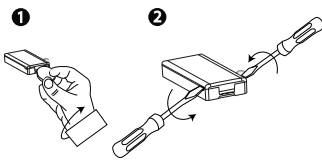

Figure 4: Device cover removal
1. Remove the cover. See Figure 4.